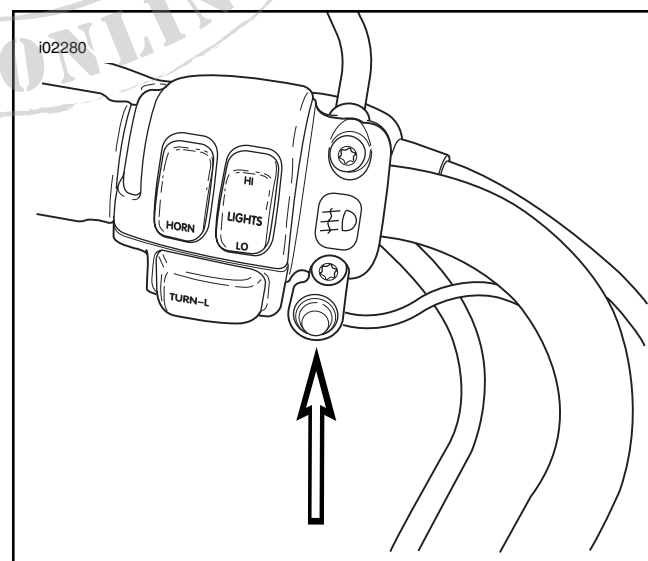

Figure 8. Lamp Switch Mounting
1. See Figure 8. Remove the lower screw and washer from the left handlebar switch housing clamp.
2. See Service Parts illustration. Mount the switch bracket (25) to the switch housing and tighten to 60-80 **in-lbs** (7-9 Nm)
3. Route the switch wires along the underside of the left handlebar push the switch (28) through the bracket opening and thread on the rubber switch boot (24).